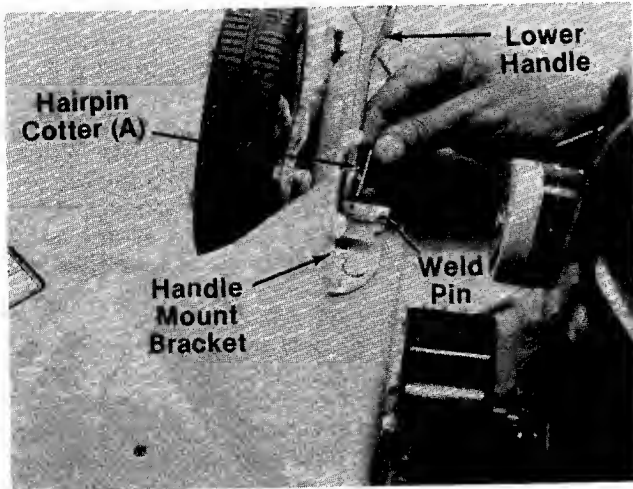

FIGURE 1.
- A (3) Hairpin Cotters
- B (1) Ferrule
- C (6) Curved Carriage Bolts 5/16-18 x 1.38" Long
- D (2) Lock Washers 5/16" I.D.
- E (2) Hex Nuts 5/16-18 Thread
- F (1) Hex Bolt 1/4-20 x 1.50" Long
- G (1) Hex Center Lock Nut 1/4-20 Thd.
- H (2) Cable Ties
3. Fasten lower handle in position over weld pins in handle mount brackets on deck. The hole in the lower handle must be on the left side of the unit. Secure with hairpin cotters in inner hole on weld pins. See figure 1.